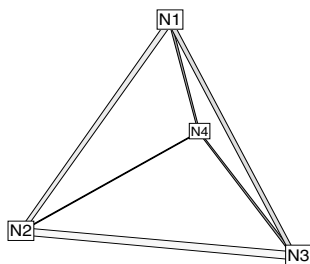

Figure 3-13. Connectivity of tetrahedron finite-element volume.
3.3.2.3. Finite-Element Volume Data. Finite-element volume cells may contain four points (tetrahedron) or eight points (brick). The elements in each zone must be either all tetrahedra or all bricks. Connectivity of a tetrahedron is shown in Figure 3-13.